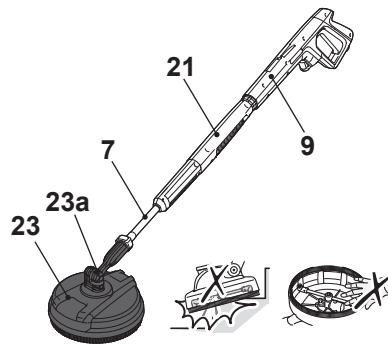

Fig. 12
4. Securely fit the short extension lance (21) by turning the sleeve (21b) clockwise (step 3).
5. Align and insert the tongues (7a) of the extension lance (7) into the grooves of the short extension lance (21) connection port (step 4)
- Securely fit the extension lance (7) by turning it clockwise to lock it in place (step 5). Ensure the arrow on the short extension lance aligns with the arrow on the extension lance.
- Attach the patio brush (23) onto the extension lance (7) (Fig.12).